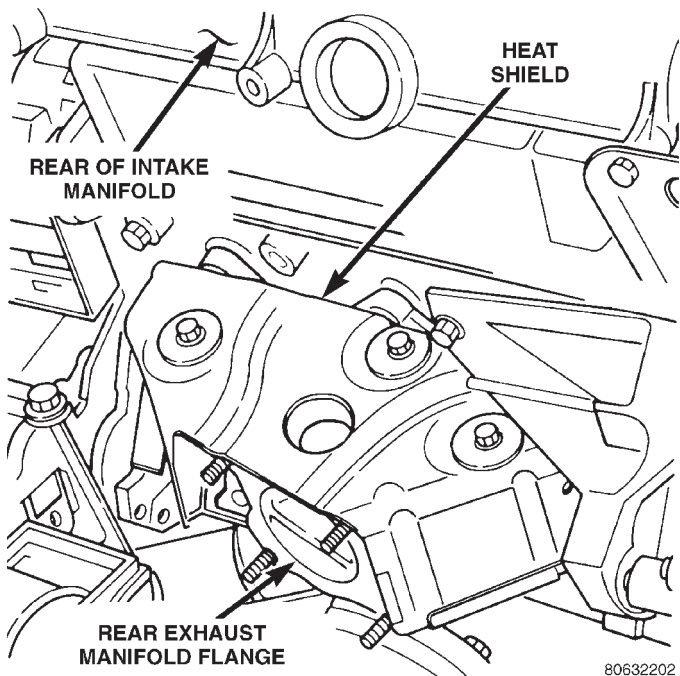

Fig. 31 Rear Exhaust Manifold—2.5L Engine
- (3) Remove heat shield from rear exhaust manifold (Fig. 31).